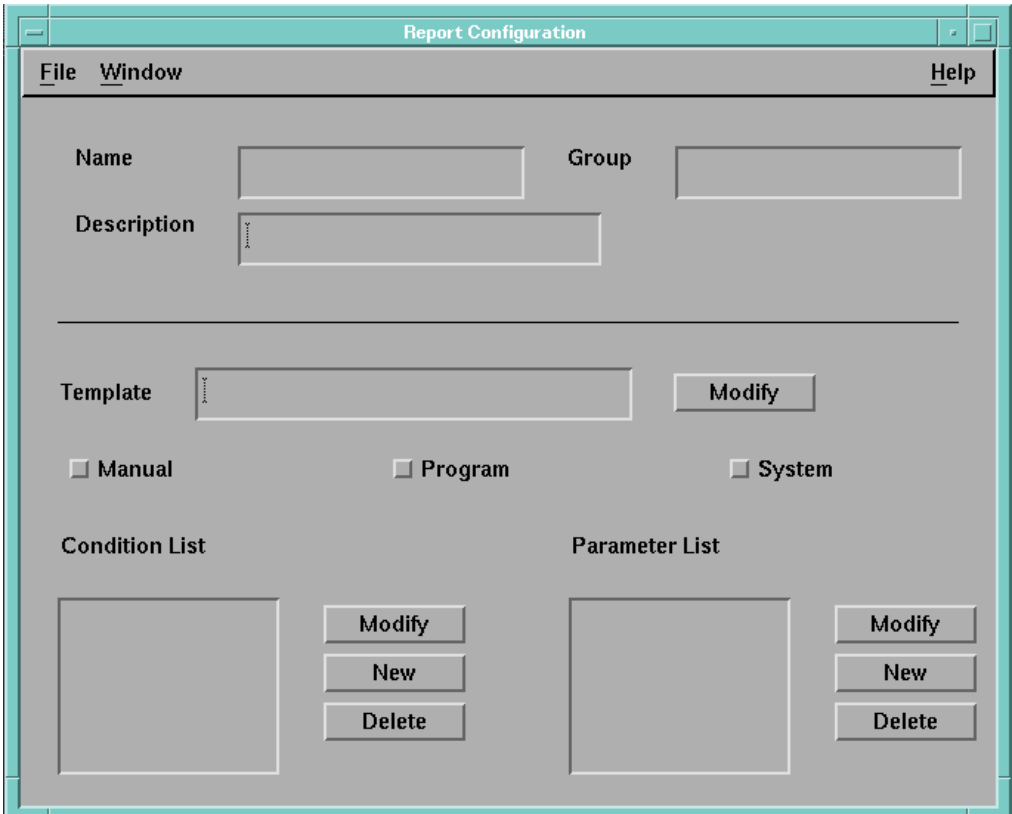

Figure 3-8. Report Configuration Window
- 2. Choose the **Report Configuration** option from the submenu. This opens the Report Configuration window, Figure 3-8.